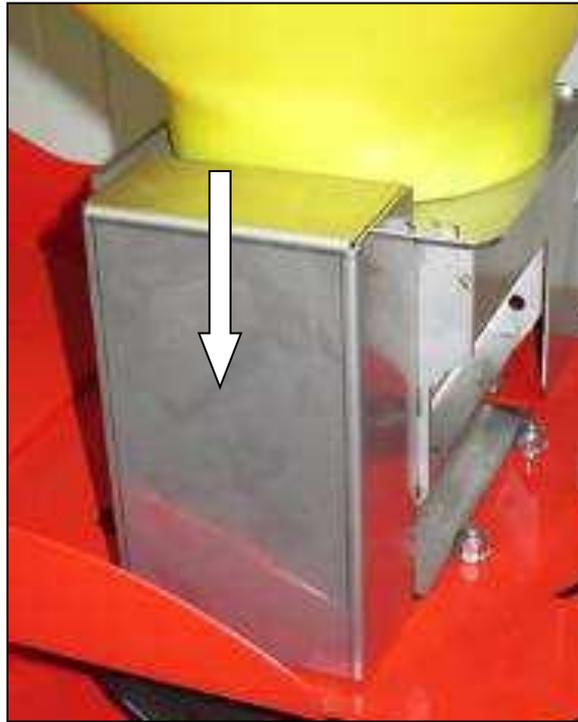

Fig.: 106
- Installing the cover hood for the drive rollers (Fig.: 106)